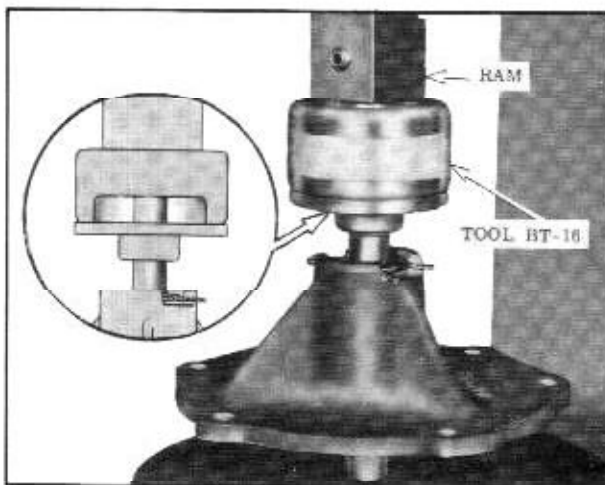

Fig. 8-62 Installing Fan Hub
3. Install a new hub with Tool BT-16 as shown in Fig. 8-62.